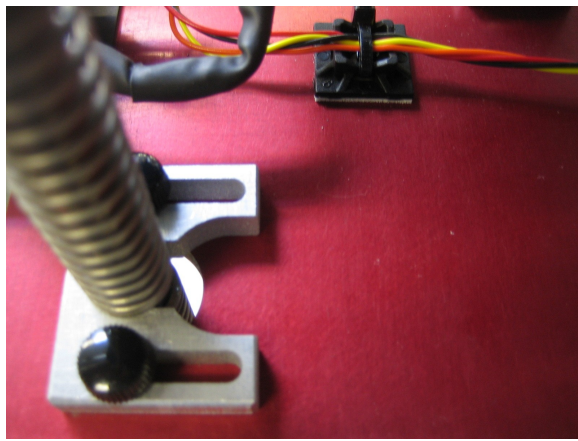

Figure 11: Spring Holder in Holding Mode.
2. Loosen the screws on the four movable spring holders (component #29) to the degree that one can freely slide the holders on the plates. It should be mentioned that opening the screws for half a turn should be enough to loosen them and to disengage the spring holders. See Figure 11 and 12. **For each spring to be replaced there are two spring holders on the corresponding shaft that have to be moved.**